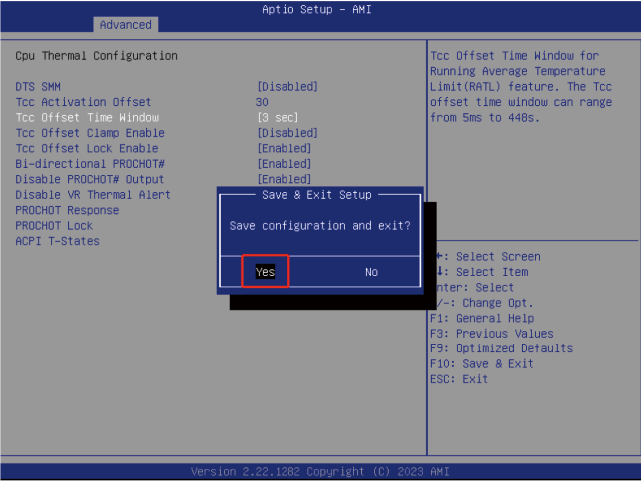

Figure 2-8-9
⑦ After the setting is completed, press F10 on the keyboard to pop up the Save&Exit Setup pop-up window. Use the ← or → key on the keyboard to select YES and press the Enter key to save the settings. Figure 2-8-9.